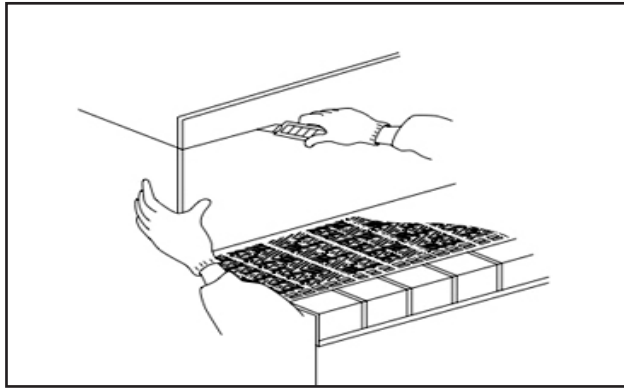

Fig. 5
- After rolling, trim any part of the riser protruding beyond the top edge of the stair. See Fig. 5
- Once in place and rolled, trim any protruding part. See Fig. 5.